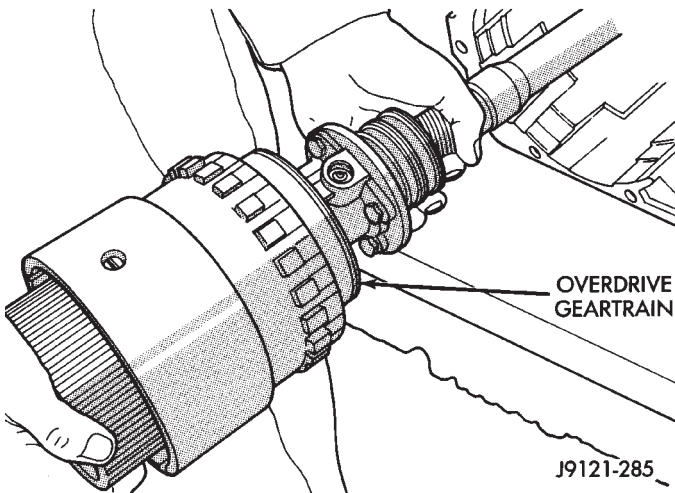

Fig. 11 Removing Overdrive Geartrain
- (11) Remove geartrain assembly from housing (Fig. 11). Set geartrain aside.